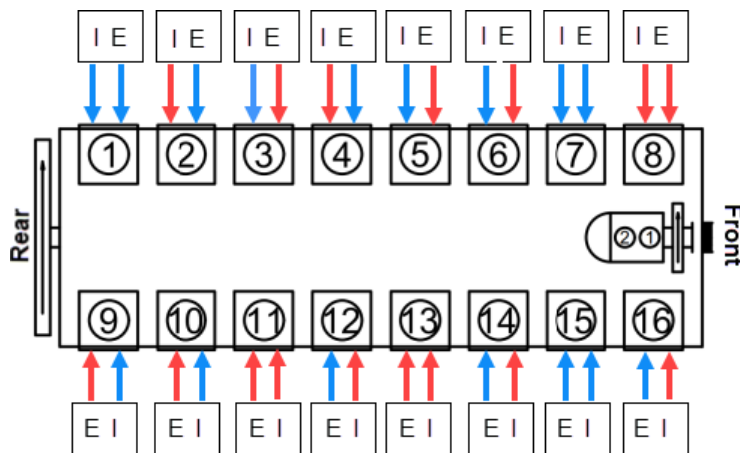

Figure 82.
3. Check the rockers when cylinder 1 is at TDC (Left side of the engine closest to the rear (Flywheel) end of the engine). If cylinder 1 is at TDC the valves shown below in blue can be adjusted. If cylinder 11 is at TDC the valves shown below in red can be adjusted. (Refer to Figure 82)